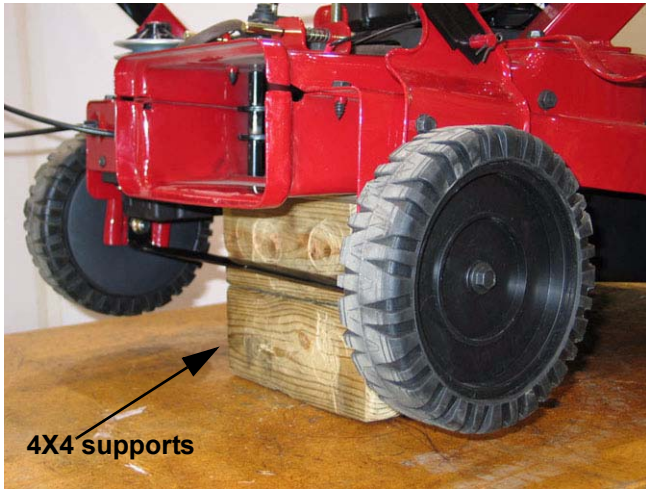

Figure 3.7
- 3.7. Safely support rear of the unit so that the rear wheels are off the ground, and remove rear hub caps. See Figure 3.7.